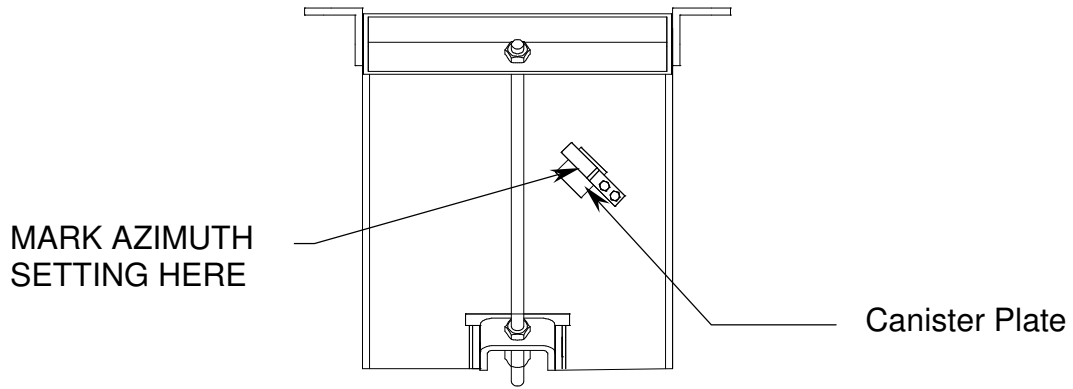

Figure 3
- Step 6:      Scribe a line next to the Azimuth and Elevation indicators to mark the satellite location as shown in Figure 3 and 4.